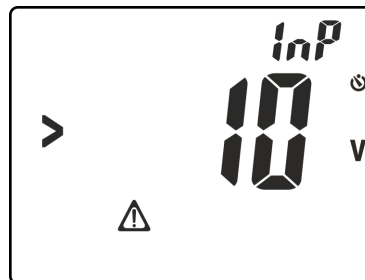

Fig. 27: Presence of voltage on the input terminals
8. Press key **GO/HOLD** to activate the test. The screen in Fig. 27 may appear on the display to signal the presence of a voltage **>10V** found on the input terminals, preventing the test to be carried out.